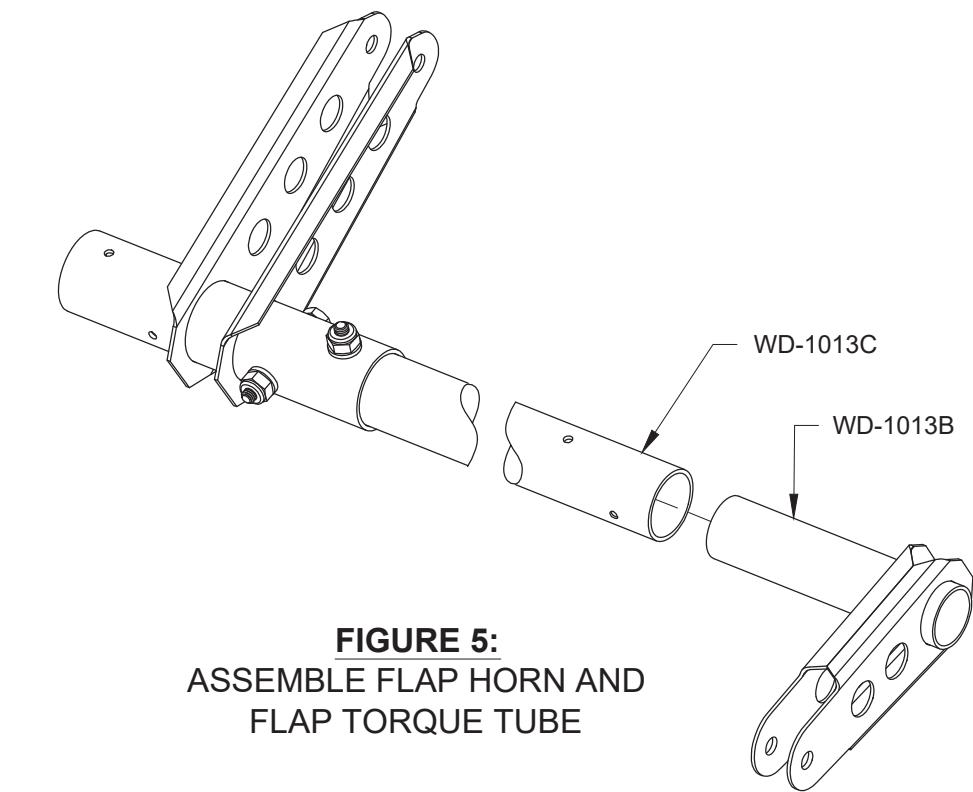

FIGURE 5:
Step 5: Slide a WD-1013B Flap Horn into the WD-1013C Flap Torque Tube as shown in Figure 5.